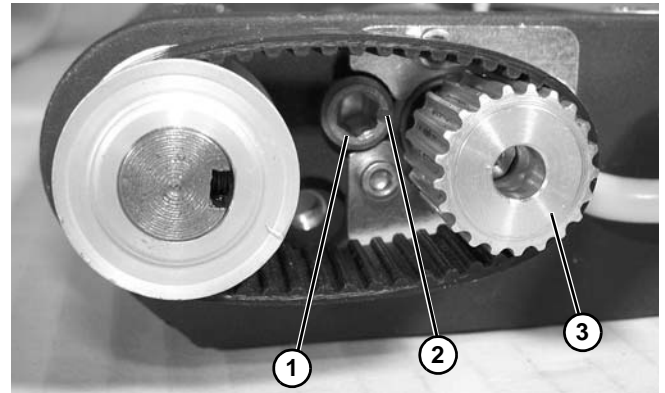
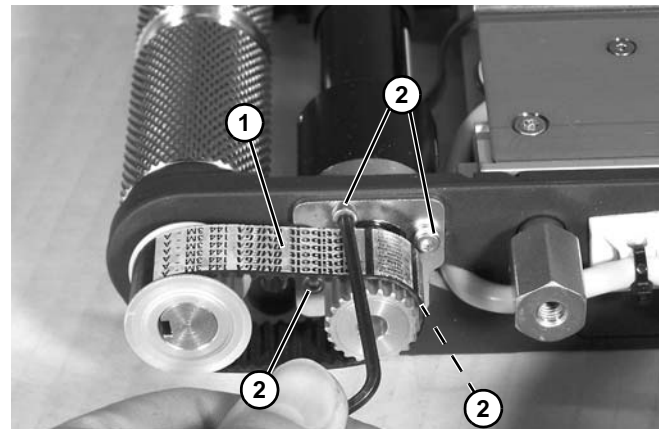

Figure 65
Figure 66
5. Tighten timing belt tension cam (**Figure 65, item 1**), making certain that pointer (**Figure 65, item 2**) on cam is pointing towards the motor drive spindle (**Figure 65, item 3**).
6. Rotate tension cam (**Figure 65, item 1**) to obtain 1/8 - 1/4" belt deflection at center of belt (**Figure 66, item 1**) with approximately 3-5 in-lb of pressure. Tighten four clamp plate screws (**Figure 66, item 2**) to 15 in-lb (1.6 Nm) to secure position.